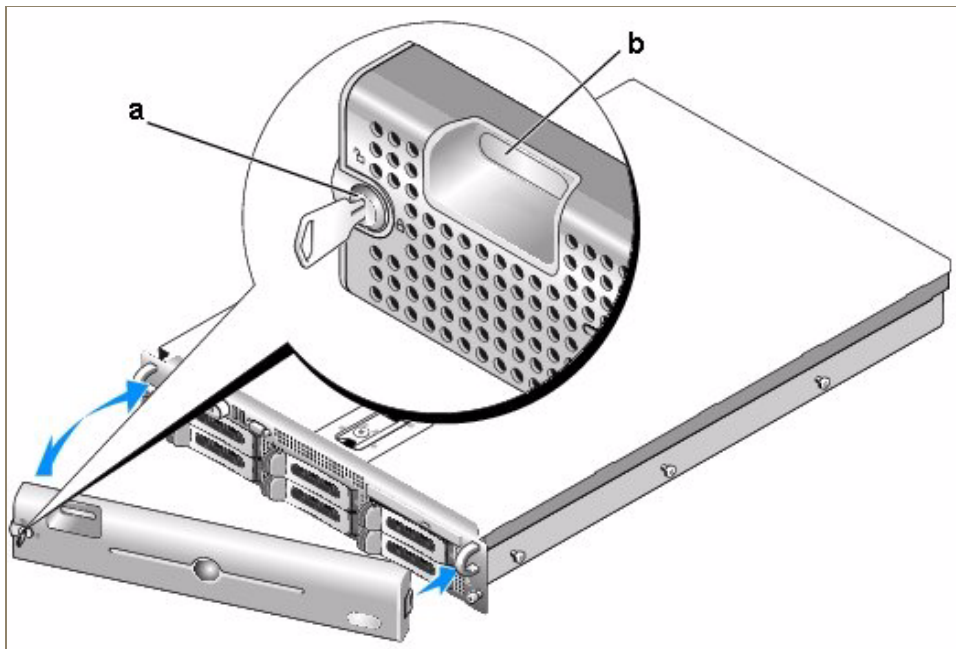

Figure 2-7 Removing the bezel from the appliance
- 1 Remove the bezel (see Figure 2-7).